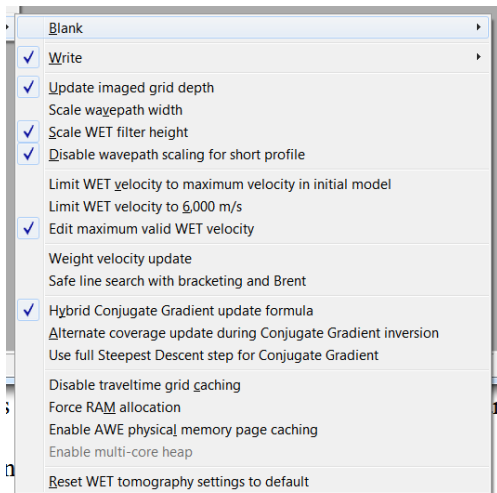

Fig. 15 : edit menu *WET Tomo|WET tomography Settings*
- uncheck *WET Tomo|WET tomography Settings|Scale wavepath width*. See Fig. 15.